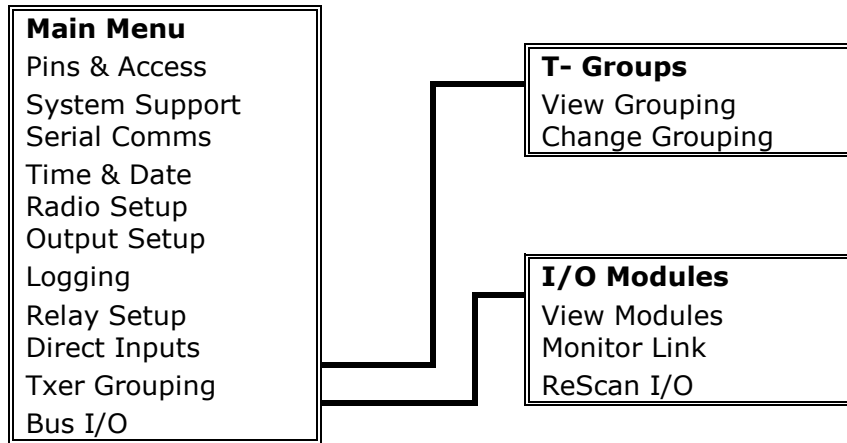

Figure 1
4.0 Each of the transmitters programmed into IRIS can be allocated to a group. There are 16 groups which can then be assigned to make one or more relays operate. This will allow a wide variety of options to be set up where designated transmitters will operate specific relays. By connecting additional relay units each group, can be if required be assigned to its own individual relay output. When the Transmitter Grouping & Bus software task is added additional Main Menu options will be available. The Menu structure for the Grouping & Bus Task is shown in Figure 1. A brief explanation of events, group's outputs and relay configuration can be found at the end of these instructions.